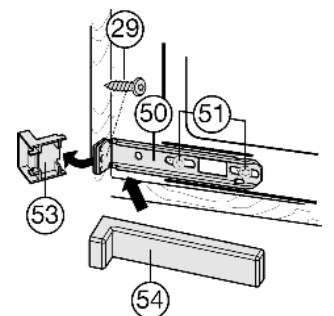

Fig. 19
- ▶ Loosen the screws *Fig. 19 (51)* a little.
- ▶ Tightly screw the bottom mounting bracket *Fig. 19 (50)* to the unit wall using Spax screw *Fig. 19 (29)*  $\varnothing 4 \times 19$ .
- ▶ Break off the projecting end of the cover *Fig. 19 (53)*. It is no longer required.
- ▶ Tighten the screws *Fig. 19 (51)*.
- ▶ Put the cover *Fig. 19 (54)* on the bottom mounting bracket *Fig. 19 (50)*.